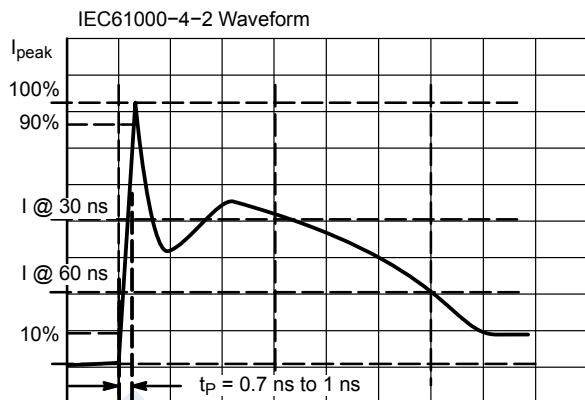

Figure 3. IEC61000 -4-2 Spec
2. For test procedure see Figures 3 and 4 and Application Note AND8307/D.